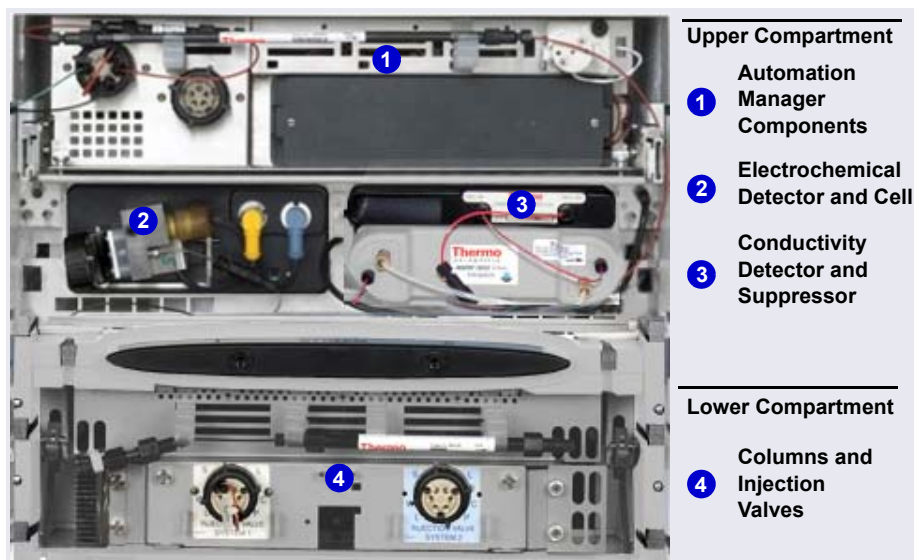
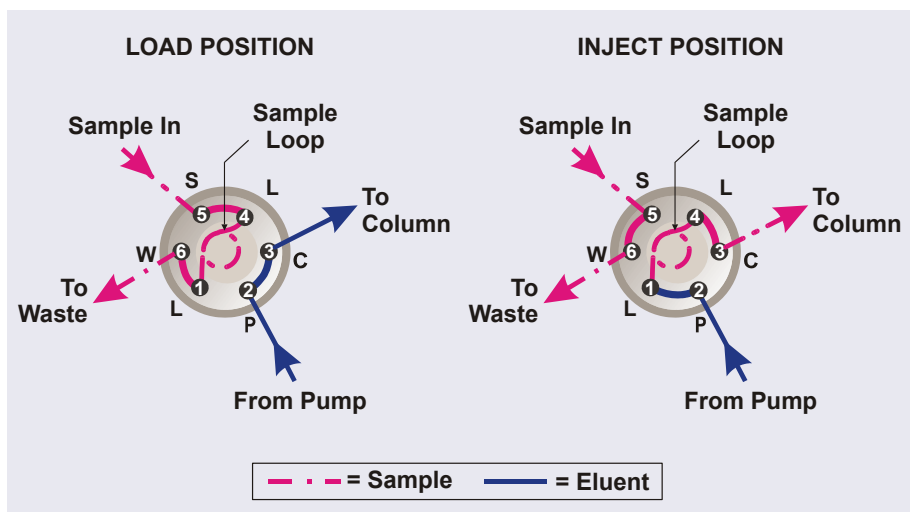

Figure 2-23. Example DC Interior View
Figure 2-27. Injection Valve Flow Schematics (6-Port Valve)
Figure 2-23 shows the interior compartments of a DC that is configured with the components for two analytical IC systems. System #1 is used for electrochemical detection applications and system #2 is used for conductivity detection applications.
The 6-port valve (P/N 075917) is the standard injection valve for analytical IC systems. It is installed in the lower compartment of the DC (see Figure 2-23). Figure 2-27 shows flow schematics for the 6-port valve.
Each Dionex ICS-5000⁺ Conductivity Detector (CD) consists of a heated conductivity cell and the electronics required for collecting the conductivity data and sending it to the computer and the analog output (if installed). The CD is installed in the upper compartment of the DC (see Figure 2-23).